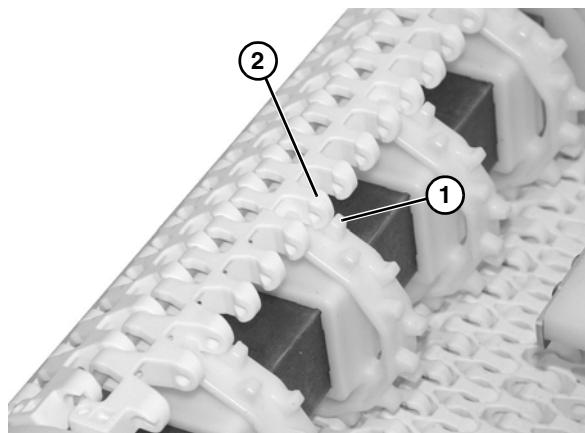

Figure 9
4. Wrap the belt around the drive end of the conveyor, making sure the sprocket teeth have engaged the belt, with concave teeth (**Figure 9, item 1**) mating with rounded section (**Figure 9, item 2**) of belt.